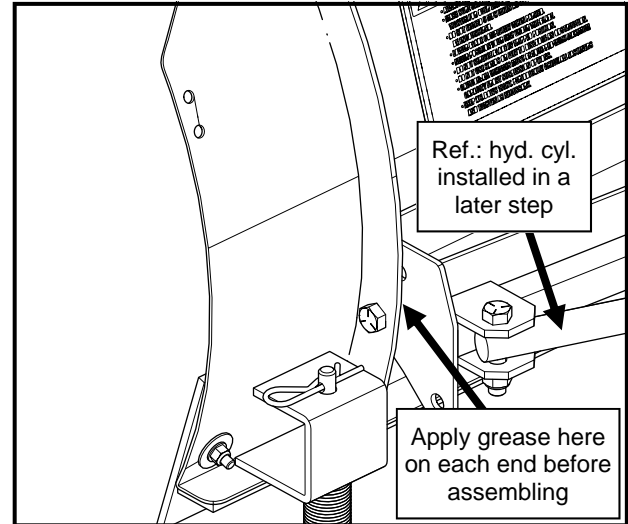

Fig. 1.1—Trip Frame to Moldboard
**1.1** Per fig 1.1, locate the steel moldboard, trip frame, two 1/2-13 x 2 1/2" bolts, and two 1/2-13 Nylon lock nuts. Apply all-season grease to the mating surfaces on the trip frame and moldboard rib. As shown, line up the mounting hole in the trip frame with the mounting hole on the moldboard rib (near the bottom). Install into the mounting holes a 1/2-13 x 2-1/2" bolt as shown. Install a 1/2-13 Nylon lock nut on the back side of the bolt. Repeat installation of hardware for the right side, orienting the bolt head to face away from the center of the moldboard. Tighten the Nylon lock nuts until all thread slack is removed from the assembly while allowing the trip-frame to rotate freely.